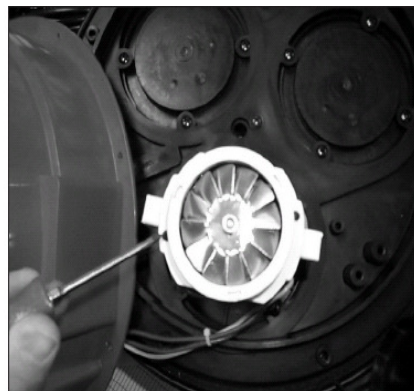

Fig. 1
This machine uses a 120 volt AC 60 cycle electrical circuit. Make sure you have the correct frequency and voltage before connecting the power cord to an outlet. The machine has a plug as shown in Figure 1. If a receptacle connected to the electrical ground as shown in Figure 1 is not available, have one installed by an electrical contractor. **Do not use an adapter.**
3. Remove the motor cover by removing two screws. **See Fig. 1**